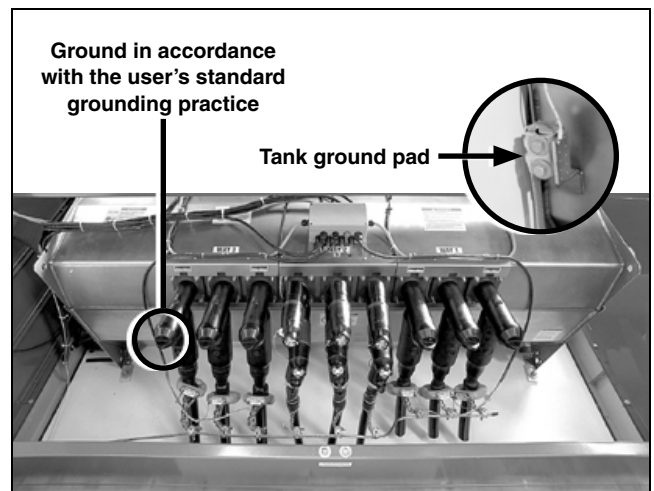

Figure 27. The ground wire G1 attached to the tank.
- (b) The G1 ground wire is labeled and located in the low-voltage compartment. Carefully insert the G1 wire from the low-voltage compartment through the PVC pipe into the main enclosure. Connect the G1 wire to the copper ground angle located on the tank. See Figure 27.